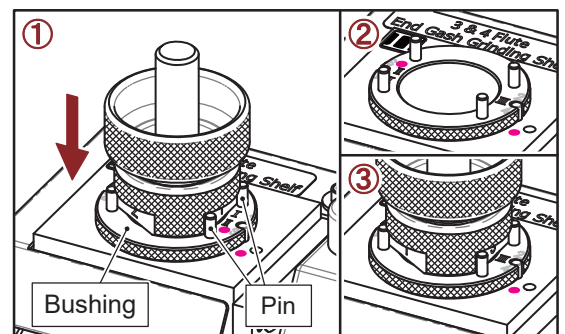

Fig. 13-2
2. 3 Flute End Gash Grinding (II) (Fig. 13-2)
① Insert the chuck set into the bushing on the Shelf (II), align Slot No.1 to the two pins where marked as No.(I·II), push the chuck set gently until the grinding noise stops. Turn the chuck set to grind the Slot No.2 in the same way.
② Take the chuck set out, turn the bushing to No.(III), align No.(III) to the pin on the shelf, then insert it to the end.
③ Insert the chuck set into the bushing, align Slot No.3 to the two pins where marked as No.(III), push the chuck set gently until the grinding noise stops.